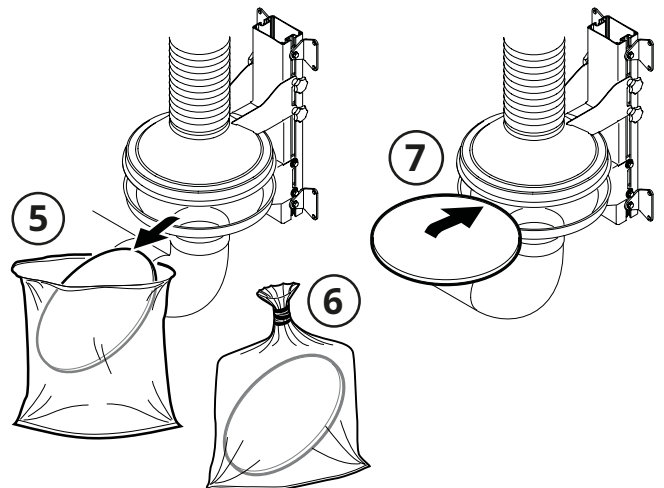

Fig. 18
4. Lift the wire mesh filter out of the lower cone and insert Filter Bag CFE PCW3 (5, Fig. 18). Seal the bag (6) and dispose of or clean the wire mesh filter with neutral detergents under lukewarm tap water.
6. Place the new or cleaned wire mesh filter in the bottom cone (7) and seal and connect all the parts that were loosened during disassembly.